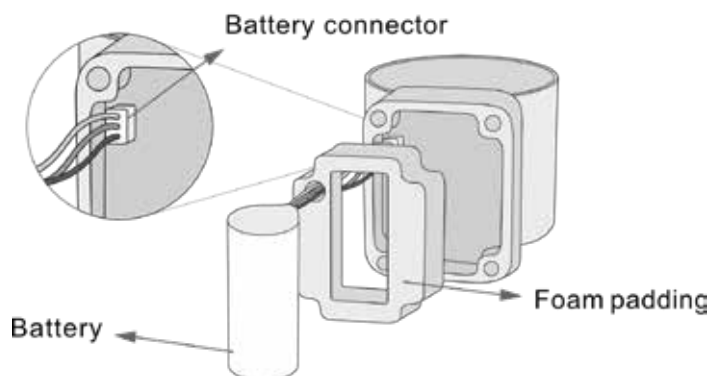

Fig. 06
3. Pull the battery out of the casing, followed by the foam padding, to access the battery connector (Fig. 06). Note the position of the wires and terminal to connect to the new battery.